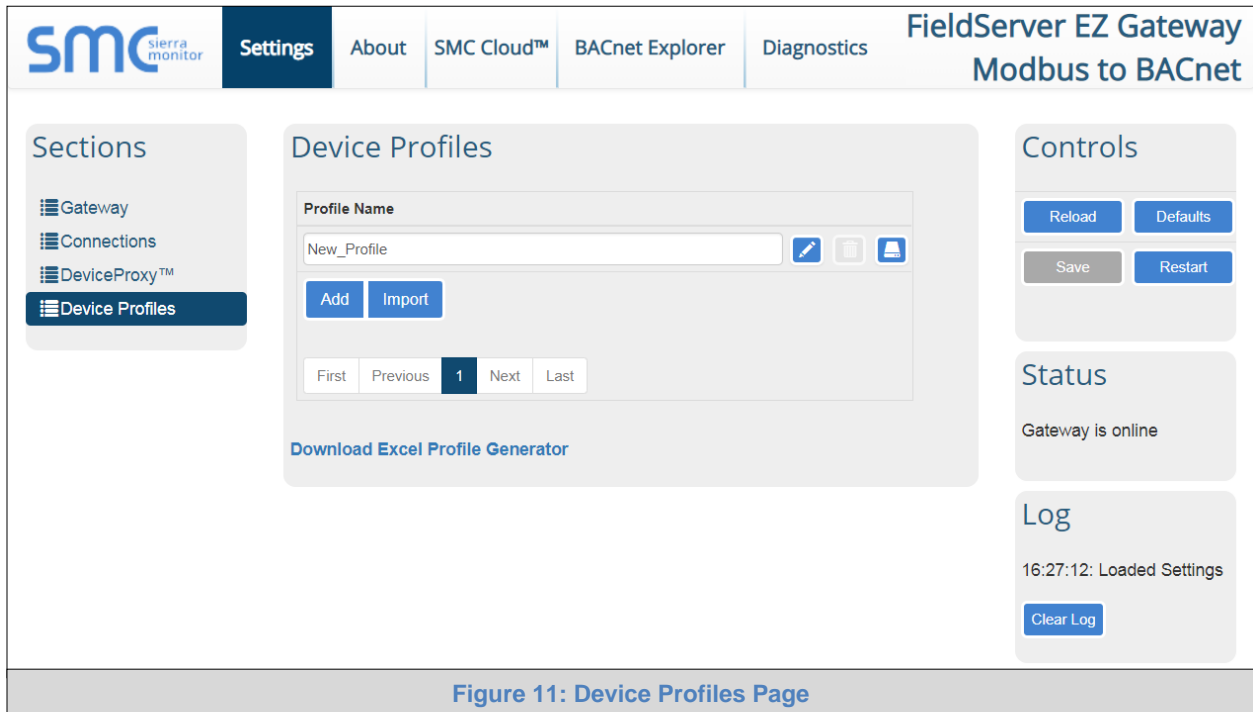

Figure 11: Device Profiles Page
- From the Device Profiles page (Figure 11), click on the “Download Excel Profile Generator” link to download the Excel spreadsheet used to create the profile to the default download folder on the local PC.
- Go back to the EZ Gateway Device Profiles page (Figure 11) and click the Import button.